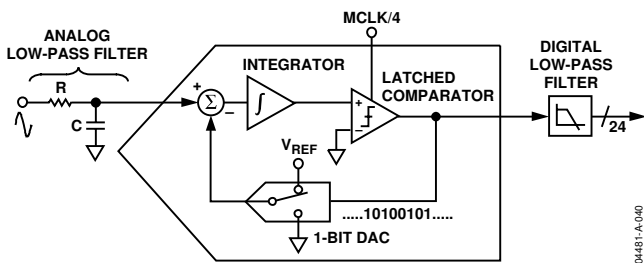
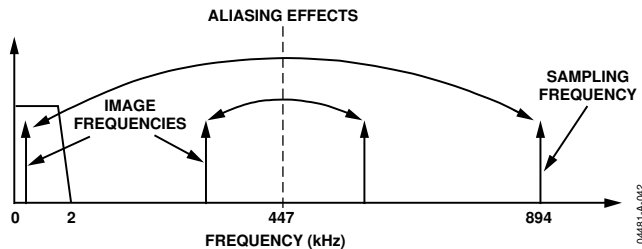

Figure 39. First-Order Σ - Δ ADC
Figure 41. ADC and Signal Processing in Channel 1 Outline Dimensions
The analog-to-digital conversion is carried out using two second-order Σ - Δ ADCs. For simplicity, the block diagram in Figure 39 shows a first-order Σ - Δ ADC. The converter comprises two parts: the Σ - Δ modulator and the digital low-pass filter.
Figure 39 also shows an analog low-pass filter (RC) on the input to the modulator. This filter prevents aliasing, which is an artifact of all sampled systems. Aliasing means that frequency components in the input signal to the ADC that are higher than half the sampling rate of the ADC appear in the sampled signal at a frequency below half the sampling rate. Figure 41 illustrates the effect. Frequency components (shown as arrows) above half the sampling frequency (also known as the Nyquist frequency, i.e., 447 kHz) are imaged or folded back down below 447 kHz. This happens with all ADCs, regardless of the architecture. In the example shown, only frequencies near the sampling frequency, i.e., 894 kHz, move into the band of interest for metering, i.e., 40 Hz to 2 kHz. This allows the use of a very simple LPF (low-pass filter) to attenuate high frequency (near 900 kHz) noise, and it prevents distortion in the band of interest. For conventional current sensors, a simple RC filter (single-pole LPF) with a corner frequency of 10 kHz produces an attenuation of approximately 40 dB at 894 kHz—see Figure 41. The 20 dB per decade attenuation is usually sufficient to eliminate the effects of aliasing for conventional current sensors; however, for a di/dt sensor such as a Rogowski coil, the sensor has a 20 dB per decade gain. This neutralizes the -20 dB per decade attenuation produced by one simple LPF. Therefore, when using a di/dt sensor, care should be taken to offset the 20 dB per decade gain. One simple approach is to cascade two RC filters to produce the -40 dB per decade attenuation.